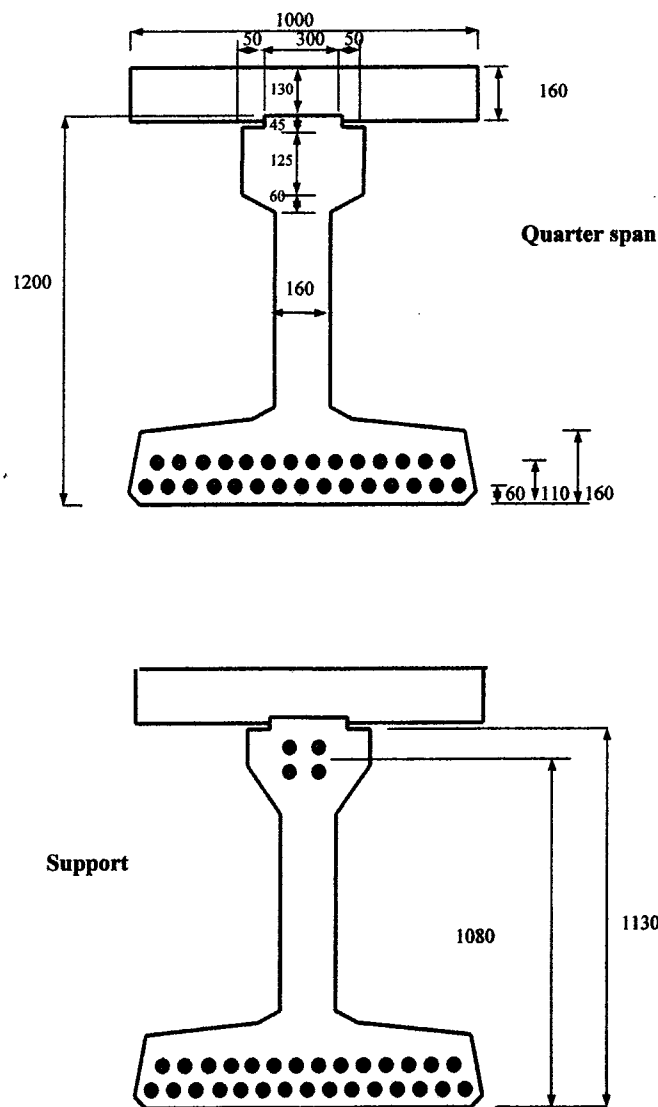

Fig. 1 Composite beam cross-sections
- (b) A bridge deck comprises of prestressed beam (pretensioned) at 1 m centres acting compositely with a 160 mm thick concrete slab. The characteristic strengths of prestressed beam and slab concretes are 50 MPa and 30 MPa, respectively. The deflected patterns of tendons at quarter span and at support are shown in Figure 1. The total tendon force after all losses have occurred is 3440 kN. The span is 25 m, the overall beam length is 25.5 m and the nominal values per beam of the critical forces and moments at the support and at quarter span for load combination I are given in Table 1.